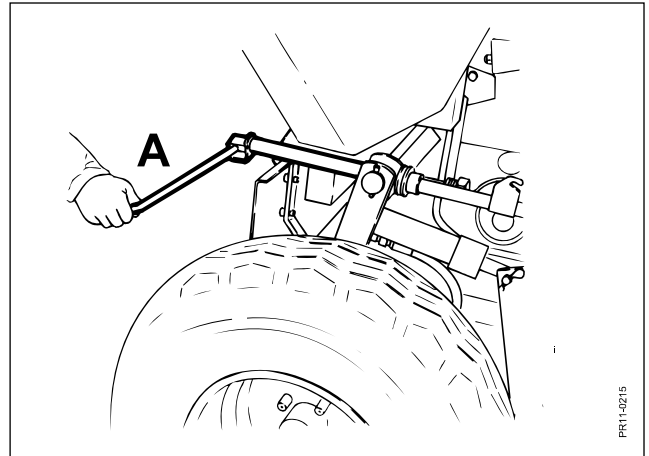

Fig. 3-8
- Fig. 3-8** Tighten the relief springs with the spindle **A** until the ground pressure for the pick-up is maximum 30 kg.